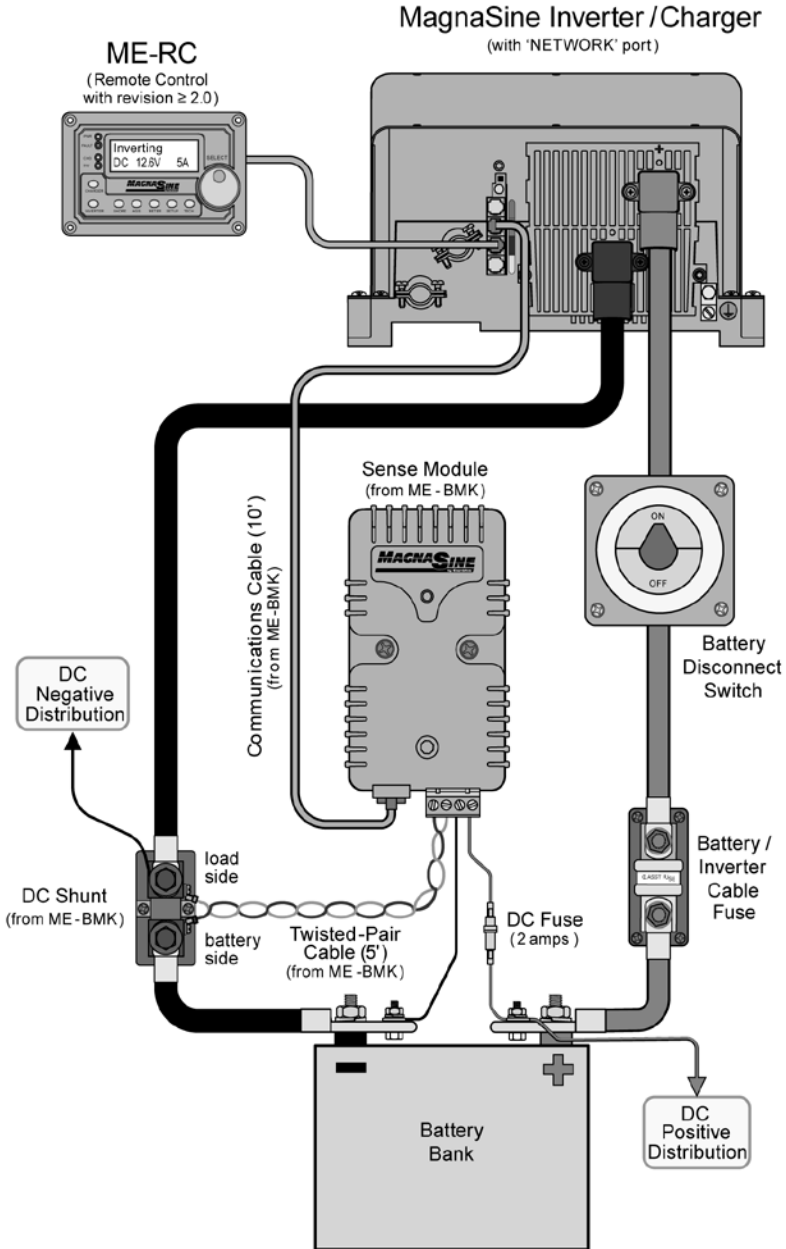

Figure 2-1, ME-BMK Installation Diagram
To assist you in planning and designing your installation; you should review the basic system diagram shown in Figure 2-1. If another network device besides the ME-BMK is to be installed, refer to section 2.3 to determine your specific network configuration.
2.1.1 List of supplied components in the ME-BMK (see figure 2-1):
2. Connect the Communications cable into the RJ11 "Comms port" beside the green label (also referred to as the "Network" port) on the MagnaSine inverter/charger (see figure 2-1).